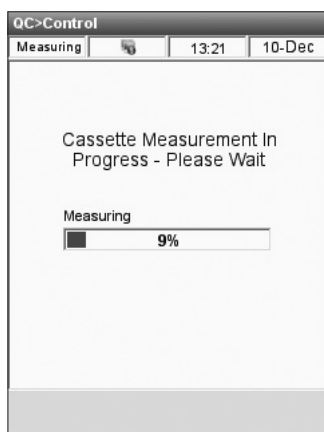

Fig. 4-28 QC Measurement
- The QC sample is aspirated into the cassette, and then measurement starts (Fig. 4-28). At this time the status light begins flashing green indicating that the cover should not be opened.